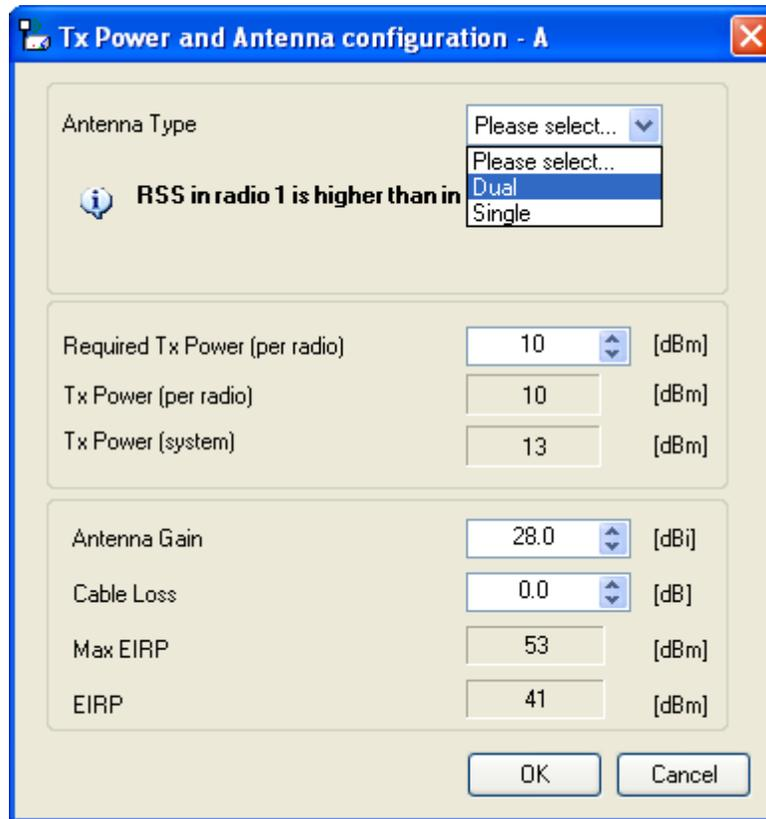

Figure 2-35. Antenna Configuration Dialog with Opened Type Selection
- $maxAvailableTxPower$  denote the maximum Tx Power practically available from an ODU (Required Tx Power per Radio in Figure 2-35) denote the maximum Tx Power practically available from an ODU.
- $maxRegEIRP$  (Max EIRP in Figure 2-35) denote the maximum EIRP available by regulation. It is determined by three factors:
The precise relationship between the items in inequality (\*) and the window of Figure 2-35 is follows: